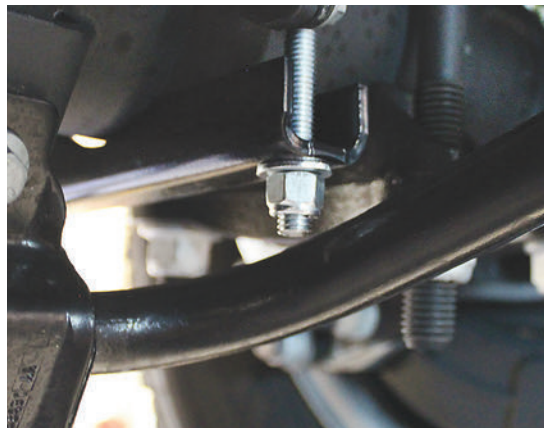

fig. D.18
- On vehicles with an anti-roll bar, it might be necessary to cut the rear carriage bolt so it does not contact the anti-roll bar (Fig. D.18).